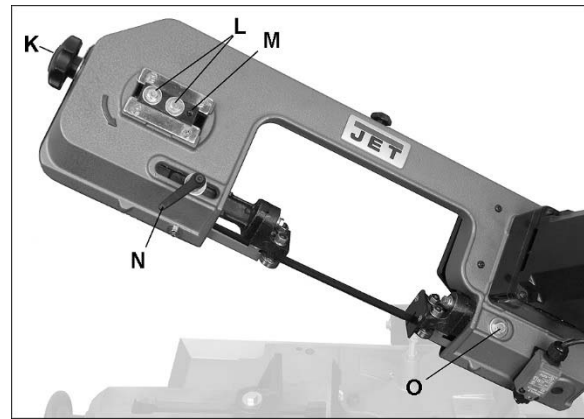

Figure 7-6
3. Turn blade tension knob (K, Figure 7-6) clockwise to tighten blade. Pluck the blade with your finger; a tensioned blade will emit a “twang” sound.
4. Loosen bolts (L, Figure 7-6) with 12mm wrench.
5. Turn set screw (N, Figure 7-6) with 4mm hex wrench, while observing blade tracking on wheel. Turn set screw clockwise to track closer to wheel flange, counterclockwise to track away from wheel flange.
3. Release tension on blade using handle (K, Figure 7-6).